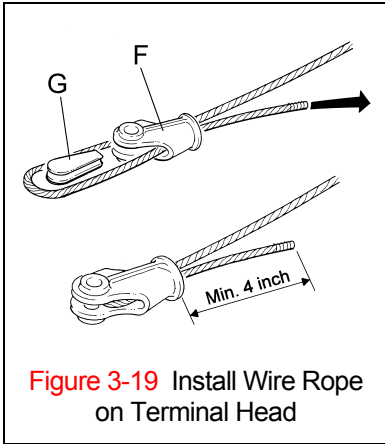
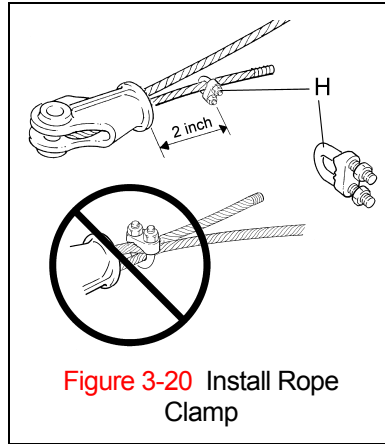

Figure 3-19 Install Wire Rope on Terminal Head
Figure 3-20 Install Rope Clamp
- 4) Insert the end of the rope into the Terminal Head (F) and making sure at least 4 inches of rope extend beyond the Terminal Head (F). Install the Wedge (G) into the Terminal Head (F) and pull the rope until the Wedge (G) and the rope are tightly seated in the Terminal Head (F) (Figure 3-19).
- 5) **⚠ WARNING** Make certain the wire rope is tight against the Wedge (G) in the Terminal Head (F).
- 6) Attach the Rope Clamp (H) 2 inches from the Terminal Head (F) and fully tighten the nuts. Do NOT clamp the free end of the rope to the load bearing rope fall (the rope between the Terminal Head (F) and the Bottom Block) (Figure 3-20).